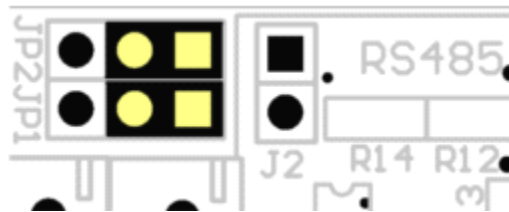

Figure 7-5
- ◆ Insert the jumper cap horizontally, the right one is 232 mode ,as shown in figure 7-5